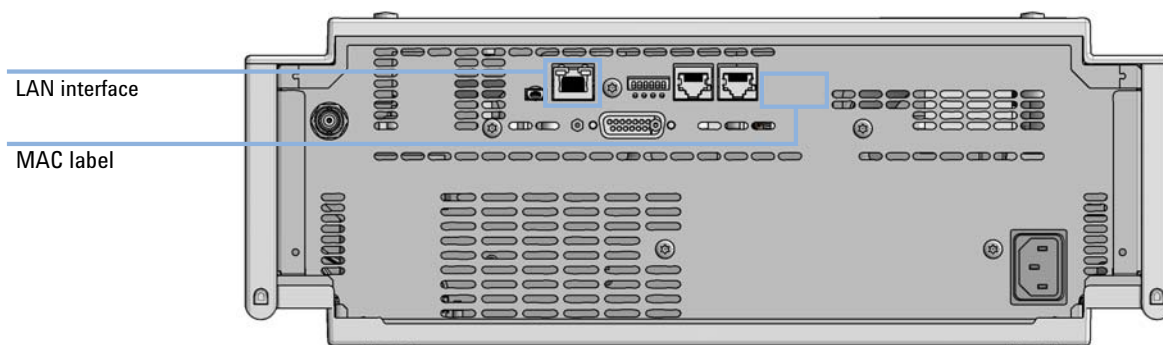

Figure 56 Location of LAN interfaces and MAC label
- 1 Note the MAC (Media Access Control) address for further reference. The MAC or hardware address of the LAN interfaces is a world wide unique identifier. No other network device will have the same hardware address. The MAC address can be found on a label at the rear of the module underneath the configuration switch (see Figure 56 on page 333).
- 2 Connect the instrument's LAN interface (see Figure 56 on page 333) to